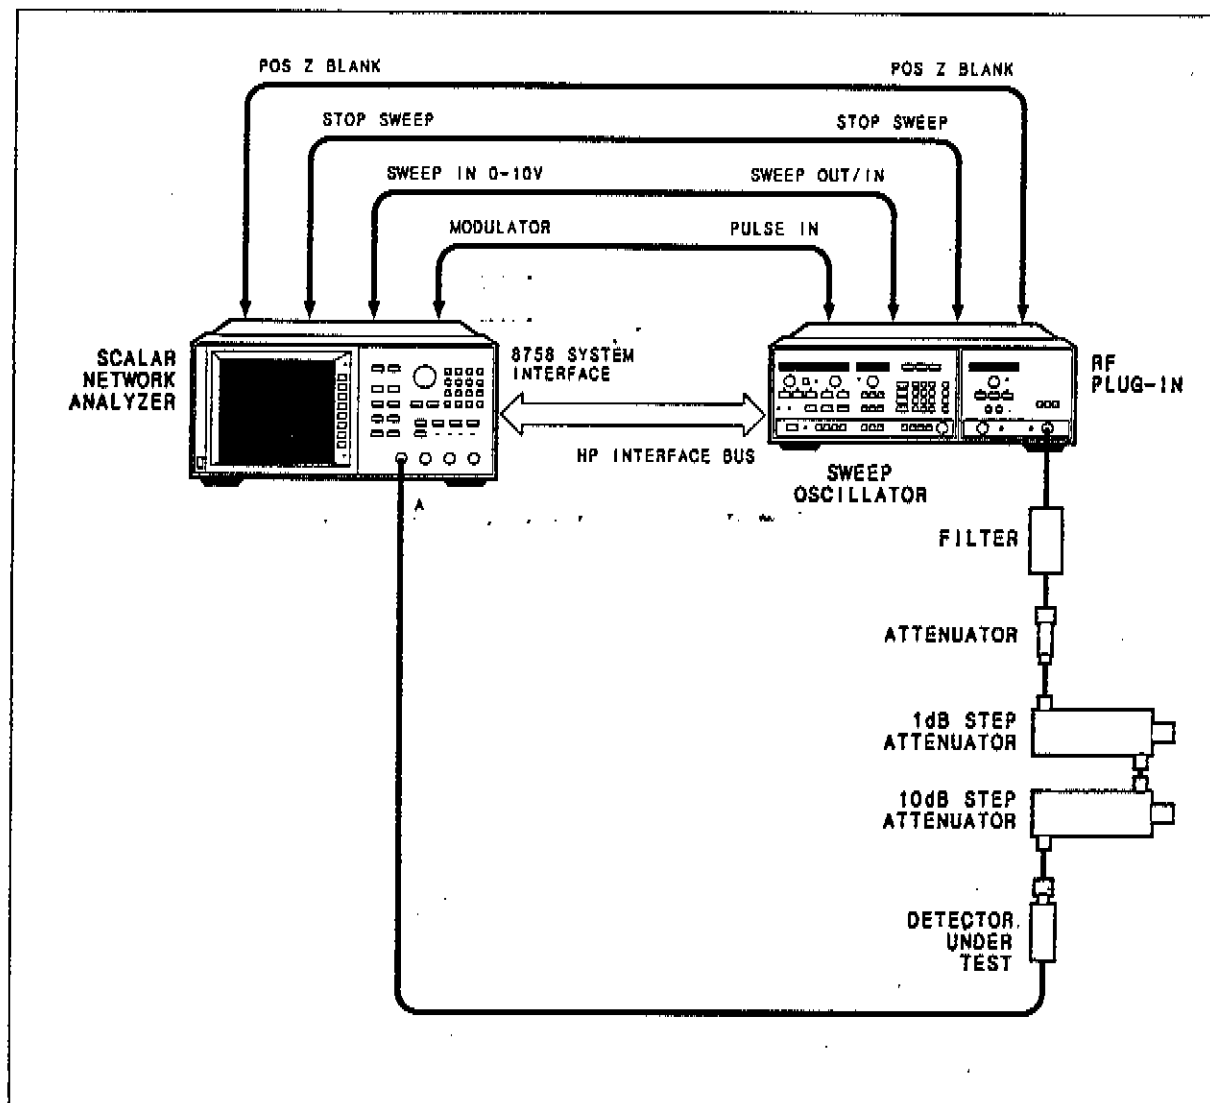

Figure 13. Power Accuracy Alternate Test Setup
- A. Connect the equipment, as shown in Figure 13. Allow 30 minutes warm-up time.